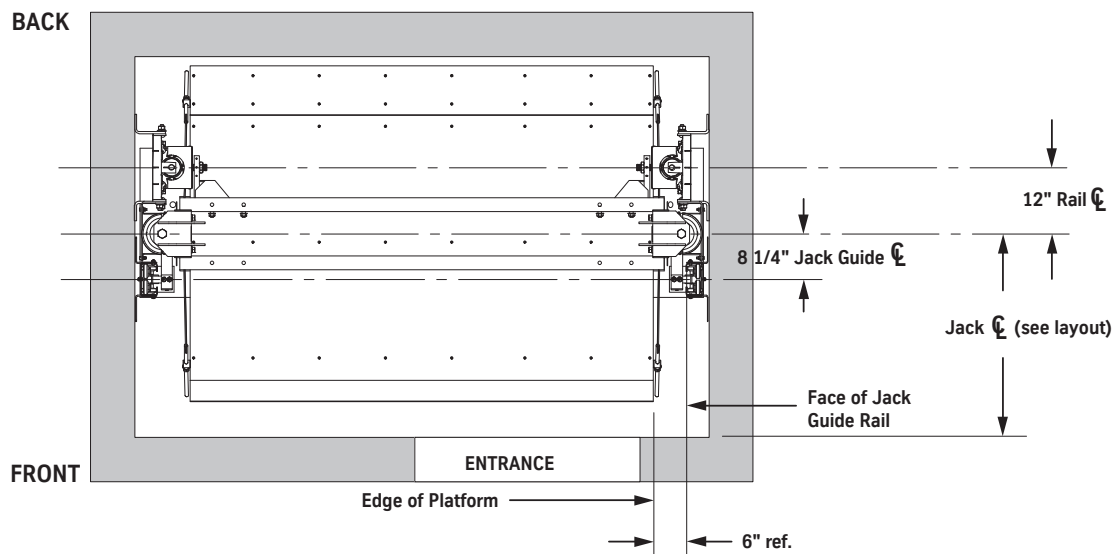

Figure 75 - Jack Guide Rail Mounting Brackets to Jack Guide Rail Assembly
1. Attach the jack guide rail brackets to the jack guide rail in a position corresponding to the nearest car rail bracket mounting surface. See Figure 75.